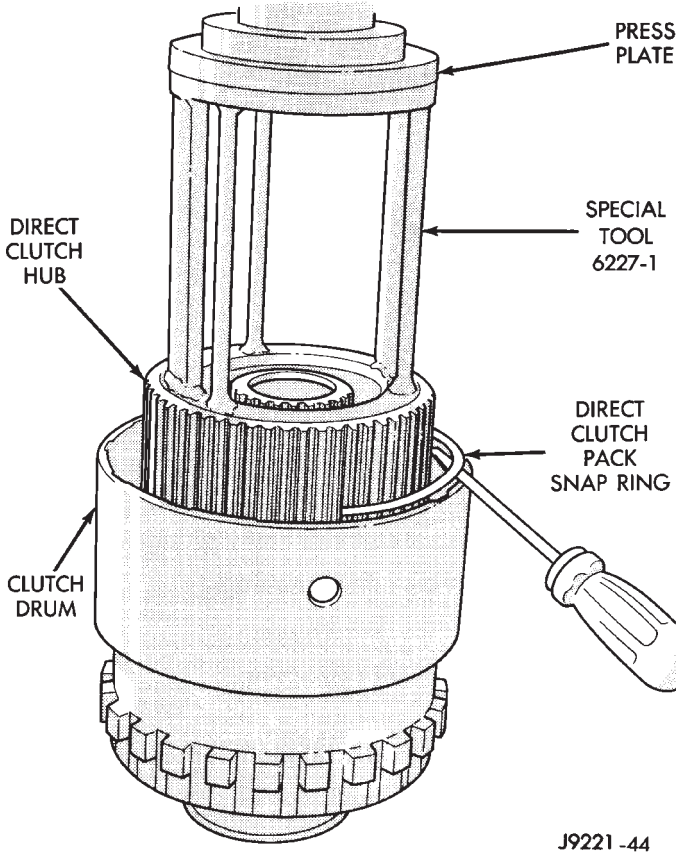

Fig. 22 Removing Direct Clutch Pack Snap Ring
- (7) Mount geartrain in shop press
- (8) Position Compressor Tool 6227-1 on clutch hub (Fig. 22). Support output shaft flange with steel press plates as shown and center assembly under press ram.
- (9) Use Bushing Tool MB990891 (or similar size tool) at top of Tool 6227-1 to help distribute load and provide needed extra press length.
- (10) Apply press pressure slowly. Compress hub and spring far enough to expose clutch hub retaining ring and relieve spring pressure on clutch pack snap ring (Fig. 22).
- (11) Remove direct clutch pack snap ring first (Fig. 22).